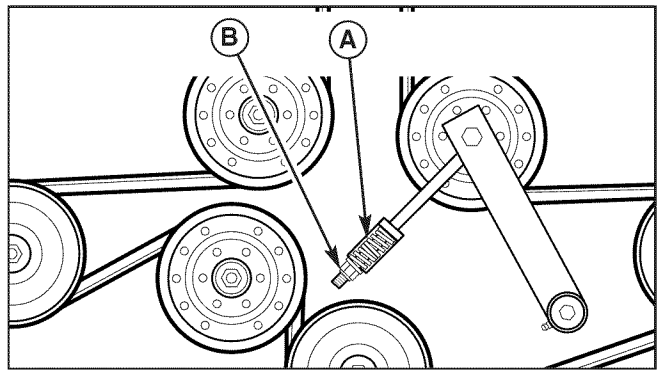

Figure 17. Mower PTO Belt
1. Loosen the spring compression nut (B, Figure 17) to release the belt tension.